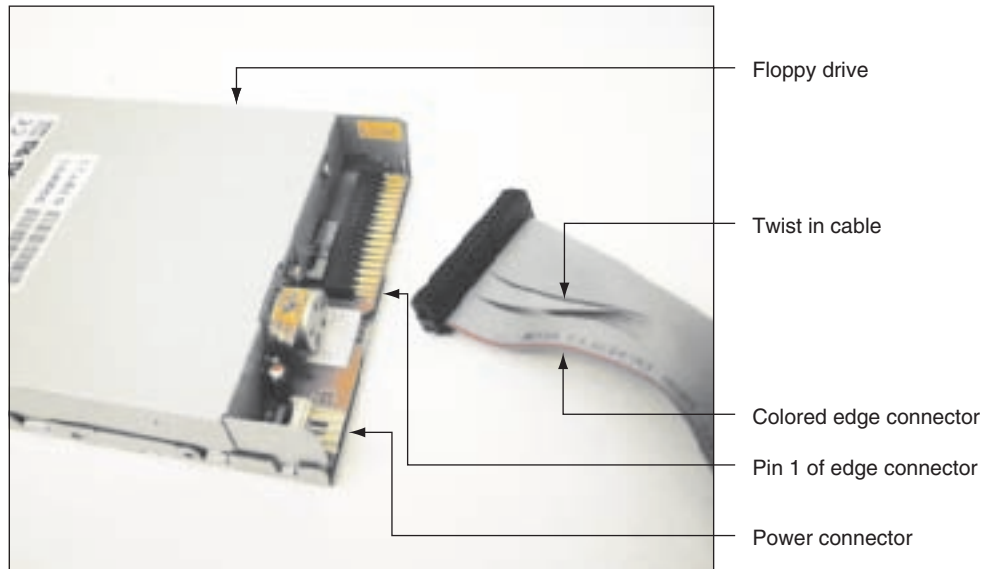
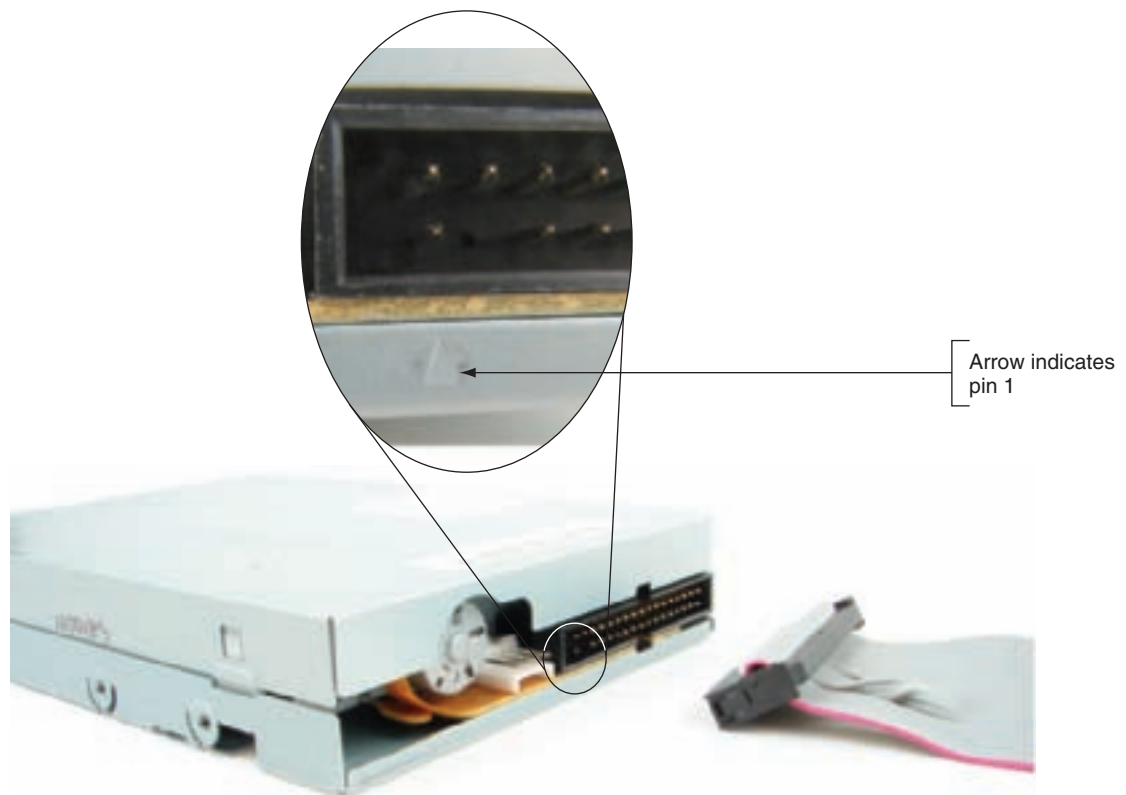

Figure 8-55 Connect colored edge of cable to pin 1
Figure 8-56 Pin 1 is marked on this floppy drive with an arrow on the drive housing
6. Connect the data cable and power cord to the drive. Make sure that the data cable's colored edge is connected to the pin-1 side of the connection, as shown in Figure 8-55. With some newer floppy drives, pin 1 is marked as an arrow on the drive housing (see Figure 8-56).